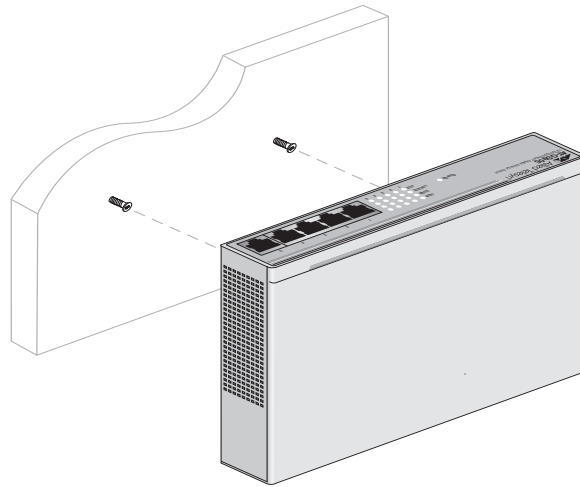

Figure 6 Aligning an AT-GS905 Switch For Wallmount Installation
5. Align the switch horizontally, as illustrated in Figure 6.